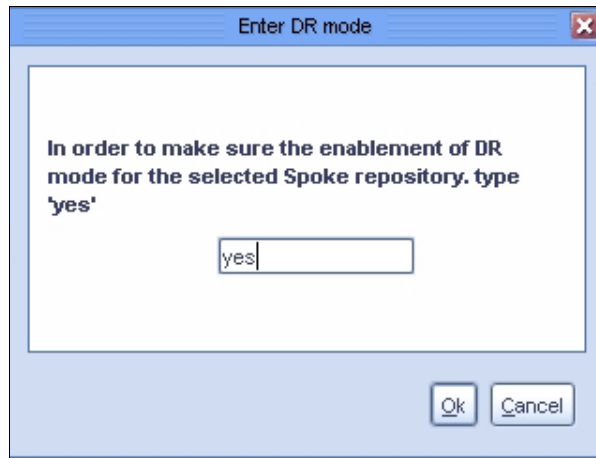

Figure 11-3 Second DR confirmation window
3. Select the spoke repository and click **OK**. A second confirmation window opens (Figure 11-3).